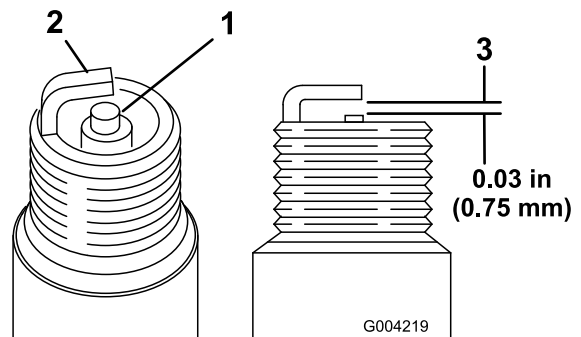

Figure 19
1. Look at the center of the spark plug (Figure 19). If you see light brown or gray on the insulator, the engine is operating properly. A black coating on the insulator usually means that the air cleaner is dirty.
2. Check the gap between the center and side electrodes (Figure 19). Bend the side electrode (Figure 19) if the gap is not correct.